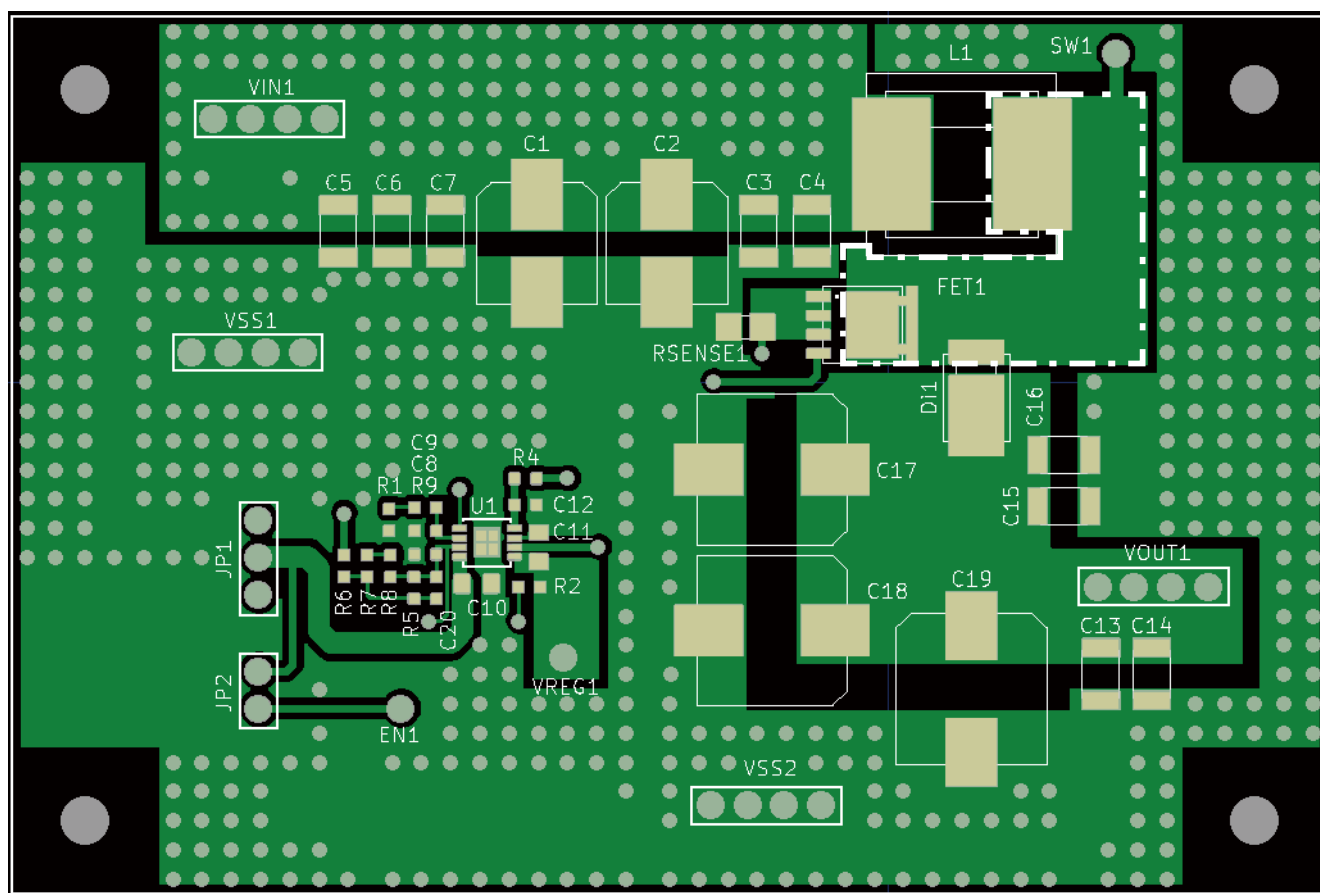

Figure 14 Reference Board Pattern
- The switching node (SW1) wiring area (Dashed line area in "Figure 14 Reference Board Pattern") should be as small as possible to reduce high-frequency radiation noise.